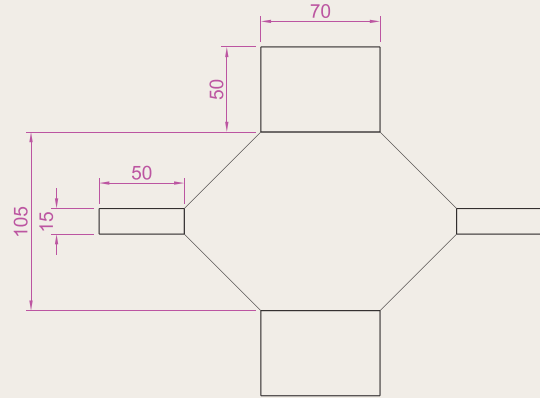

Fig. 3.52 Exercise 8
8. Figure 3.52 was constructed using only the **Rectangle** tool. Make an exact copy of the drawing using only the **Rectangle** tool.